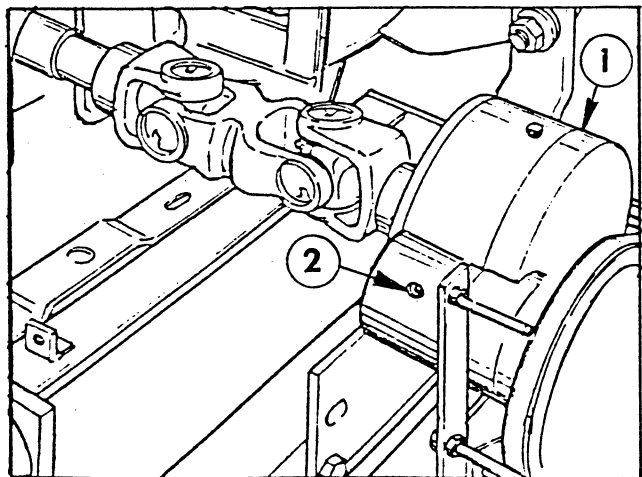

Figure 2
2. Remove the plug and check to see that there is oil visible in the Gear Multiplier unit. (Fig. 2)